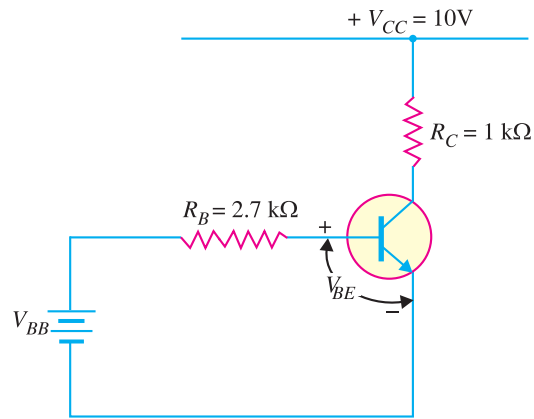

Fig. 18.9
**Example 18.3.** Fig. 18.9 shows the transistor switching circuit. Given that  $R_B = 2.7 \text{ k}\Omega$ ,  $V_{BB} = 2\text{V}$ ,  $V_{BE} = 0.7\text{V}$  and  $V_{knee} = 0.7\text{V}$ .